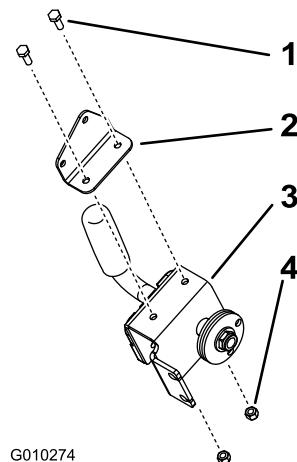

Figure 3
1. Install the handle assembly to the angle bracket with 2 bolts (1/4 x 3/4 inches) and 2 locknuts (1/4 inch)(Figure 3). Ensure to use the correct bracket.